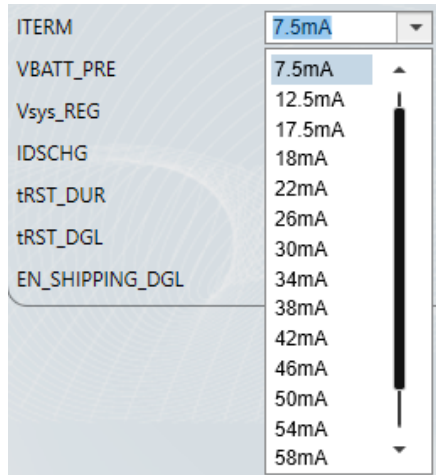

Figure 10: Charge Termination Current Setting
6. Figure 10 shows the charge termination current setting. Set the charge termination current to 7.5mA (the range is 2.5mA to 62mA).